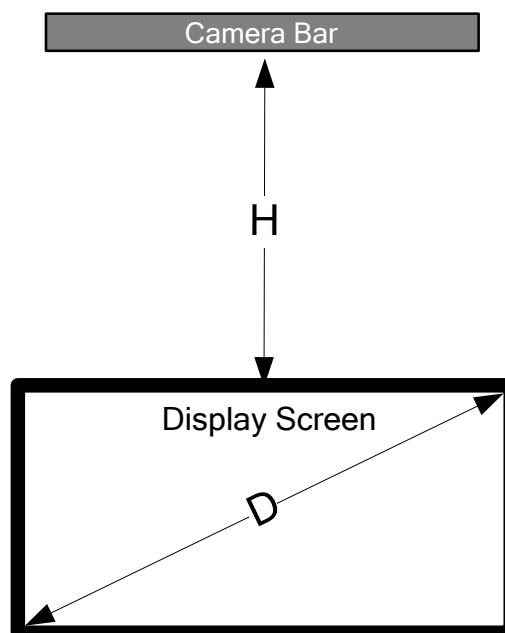

Figure 2: Camera Bar Installation Height Diagram
2. Depending on the age and size of the audience, use Table 1 and Figure 2 below for an approximate height of the top corner of the screen from the floor or outside pavement.
The positioning of the video cameras relative to the display screen depends on the type of lens used. See Figure 2 and Table 2 below for more information.
3. Use Figure 2 and Table 2 below to determine and record the height of the Camera Bar above the display depending on the lens used.